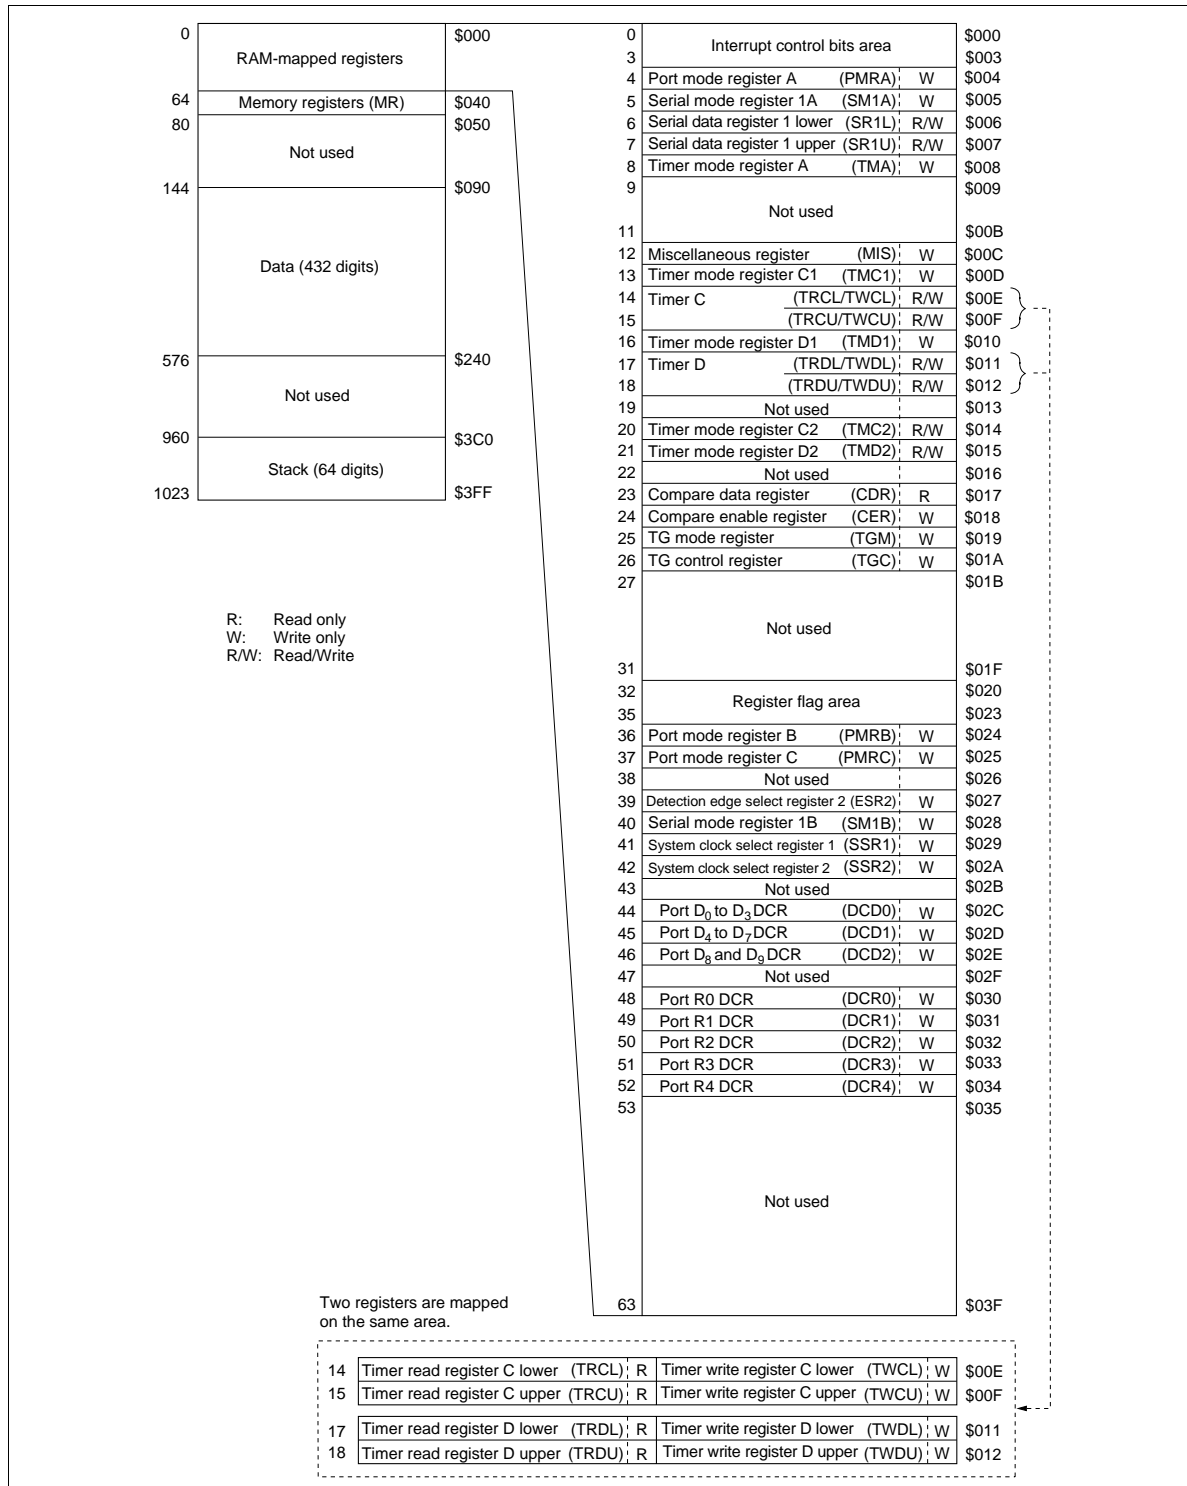

Figure 2 RAM Memory Map
The MCU contains a 512-digit × 4-bit RAM area consisting of a memory register area, a data area, and a stack area. In addition, an interrupt control bits area, special register area, and register flag area are mapped onto the same RAM memory space as a RAM-mapped register area outside the above areas. The RAM memory map is shown in figure 2 and described as follows.
This area is used as mode registers and data registers for external interrupts, serial interface 1, timer/counters, and the comparator, and as data control registers for I/O ports. The structure is shown in figures 2 and 5. These registers can be classified into three types: write-only (W), read-only (R), and read/write (R/W). RAM bit manipulation instructions cannot be used for these registers.